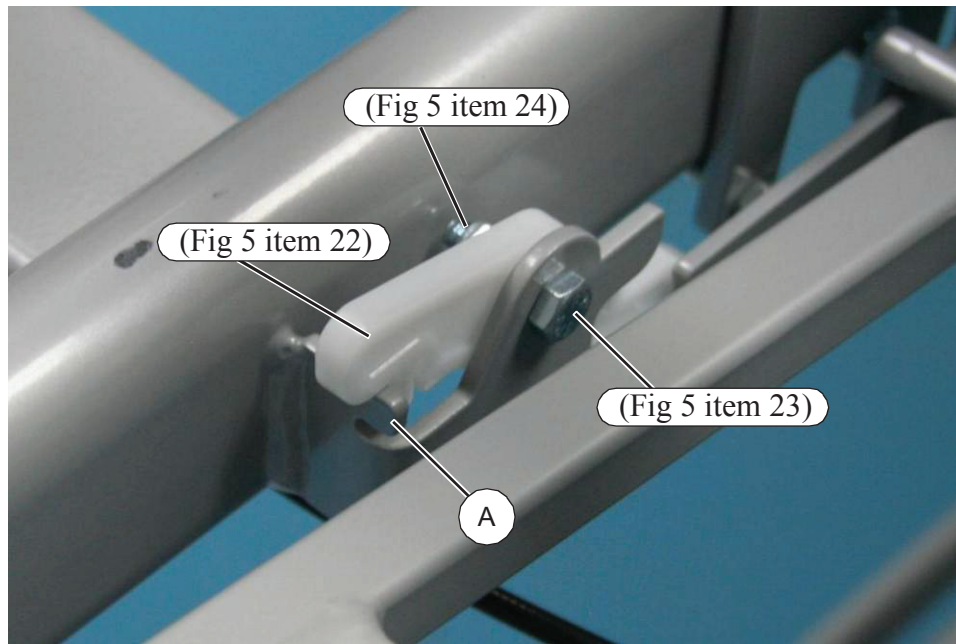

Figure 29: Calf ratchet moulding (right hand)
- 31.1.2 Refer to Figure 29. Undo the Nyloc nut (Fig 4, Item 24). Remove the hex head screw (Fig 4, Item 23) and collect the calf ratchet moulding (Fig 4, Item 22).
- 31.2.1 Align the hole in the calf ratchet moulding (Fig 4, Item 22) with the fixing bracket on the sub frame (Fig 4, Item 1). Refer to Figure 29 for correct position and orientation.
- 31.2.3 Make sure the ratchet moulding is secure but pivots easily on the screw. Check that the moulding “clicks” over the tab (Fig 29, Item A) when pushed down.